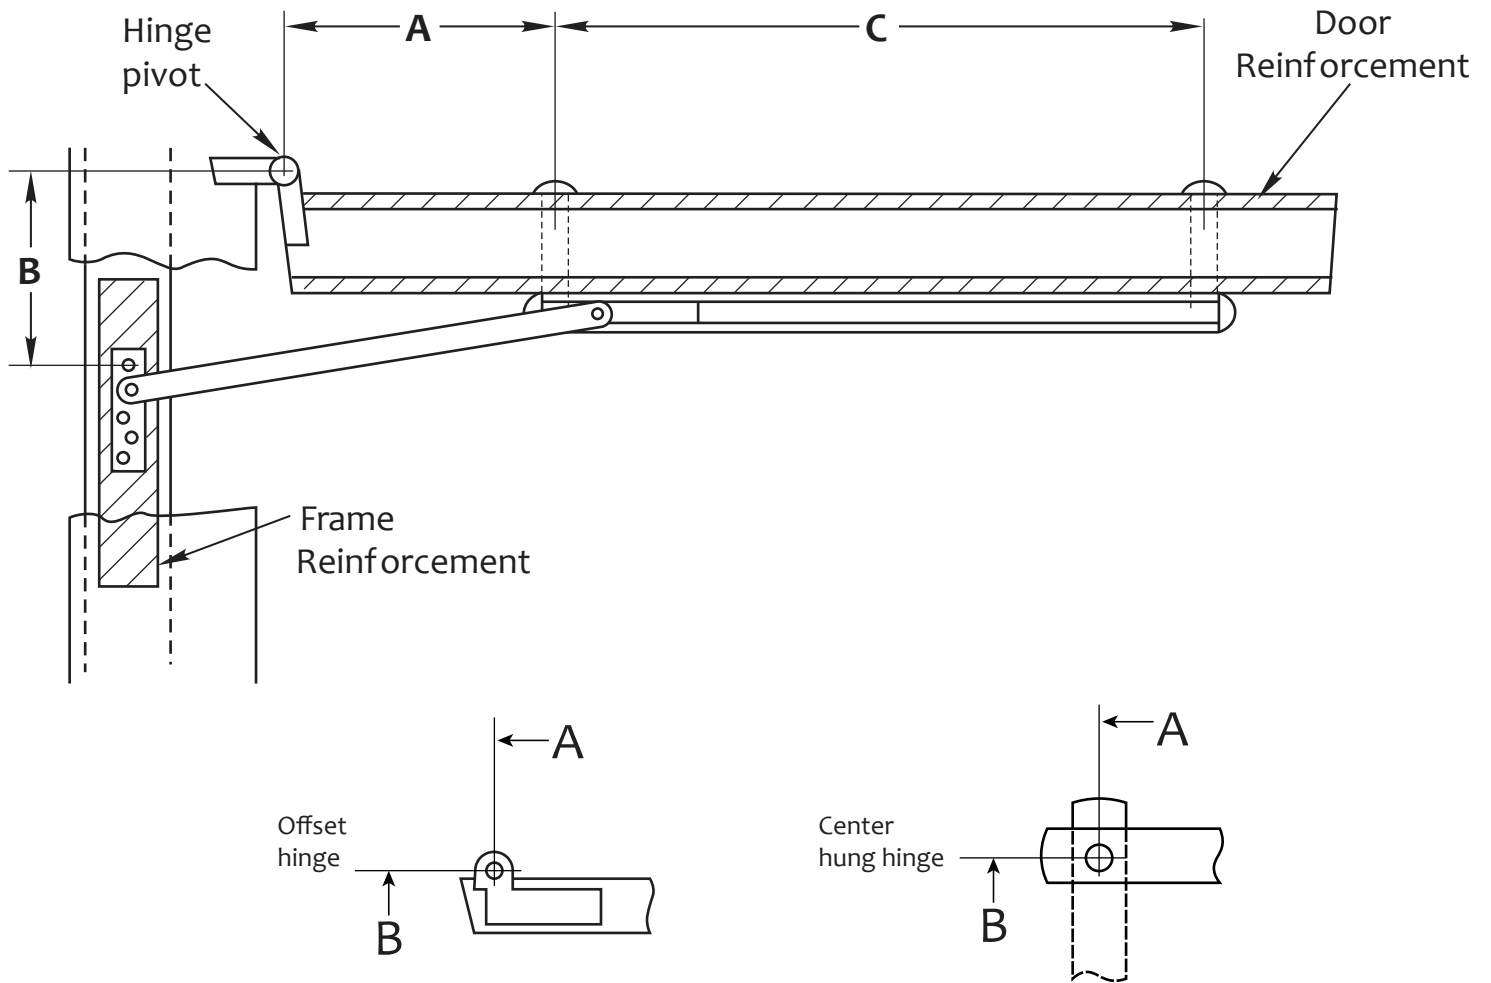

Figure 1 Installation diagram
- Select the correct dimensions from Figure 5 for Figure 1, according to the door opening and opening angle.
- Select dimension A and C, mark on the door for channel. (Figure 1)
- Select dimension B and mark on the door frame for jamb bracket. (Figure 1)
- Install the jamb bracket on the door frame according to dimension B. (Figure 1, 2)
Note: The jamb bracket shall be reinforced with a backer plate not less than 3/16" thick and 12" long. (Figure 1)